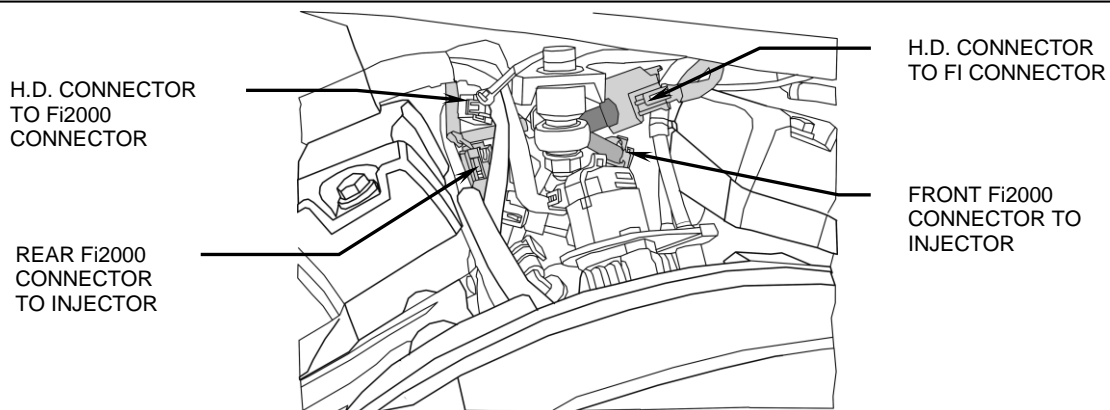

FIGURE 2
4. Attach one pair of the Fi2000 module's injector plugs to the front injector. Take the original HD connector and insert the corresponding Fi2000 connector into it, refer to Figure 2.
5. Attach the Fi2000 module's remaining injector plug onto the rear injector. Then take the original HD connector and insert the corresponding Fi2000 connector into it, refer to Figure 2.